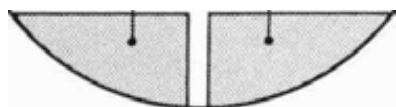

Fig. 75
- Install and connect the servos as shown in Fig. 75. Always connect the Right side servo to CH1 (Aileron).